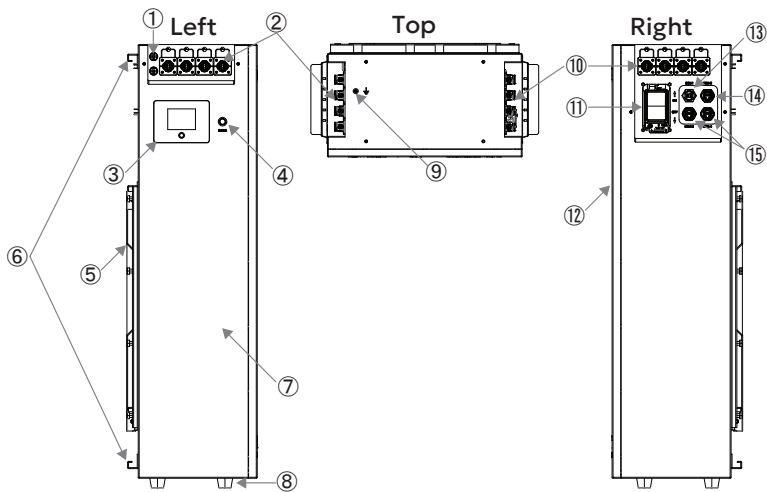

Figure 4. HELIOS ESS Battery Components
- (c) For time versus current interrupt details, refer to Figure 4. Breaker Protection Time Curve.